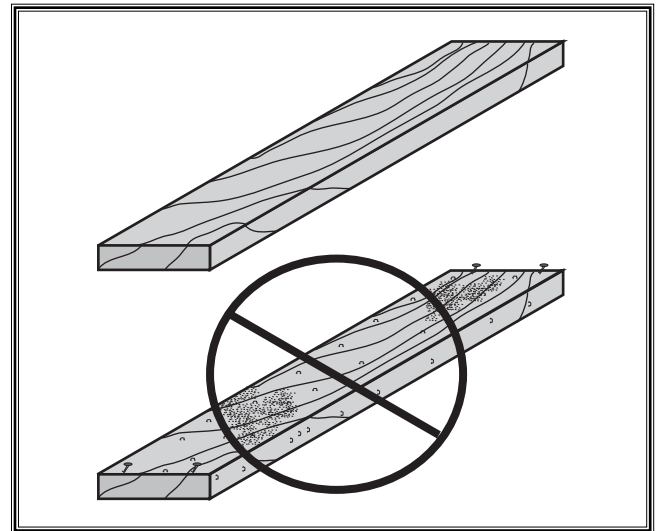

Figure 33. Only plane clean stock.
- Only use clean stock. See **Figure 33**. Remove all dirt, nails, staples, imbedded gravel, etc. from any lumber you plan on using. A hidden nail in a workpiece will instantly damage the sharp edges of the knives. This will cause unsatisfactory results in future operations.